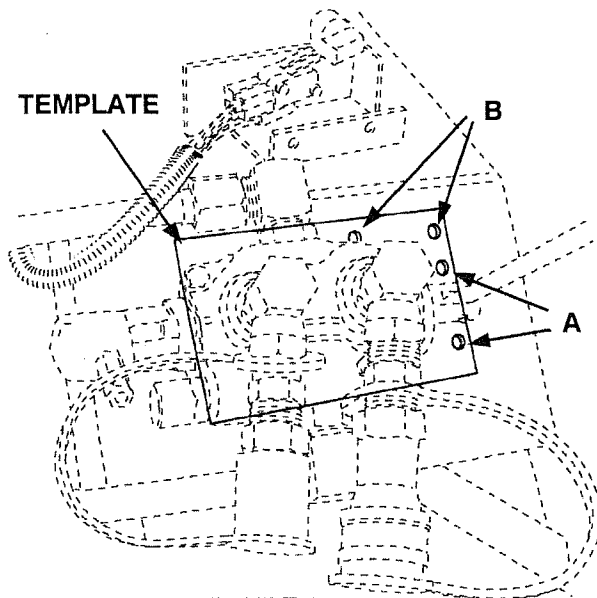

FIGURE 9
1. (See figure 9) Remove mounting bolts from PTO valve on rear fender.
3. Center punch four holes at locations (A) and (B). Remove template. Do not drill through template.
4. Use 1/8" drill bit to make four pilot holes at (A) and (B). Finish with 11/32" drill bit at (A) and 9/32" drill bit at (B).